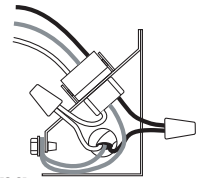

Figure 7 — Proper Wiring
2. Using proper wire connectors, wire the fan as shown in Figure 7.